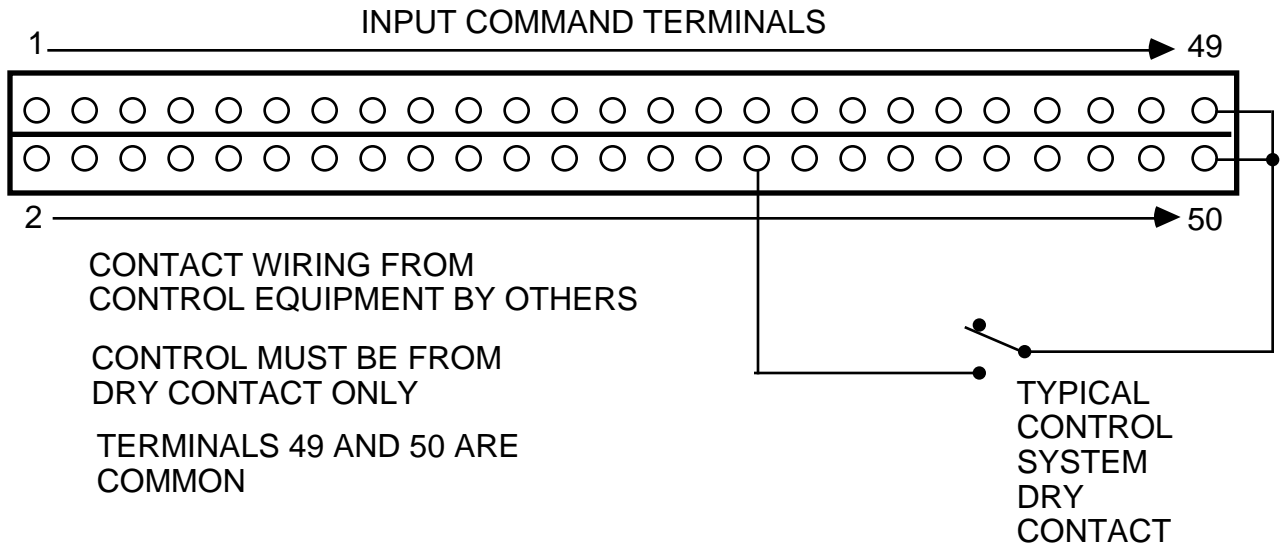

Figure 3-11
3.5.10 Table 3-1 lists the types of command functions available at each transponder and the input terminal which corresponds to that command. Figure 3-11 shows the location of each input terminal.